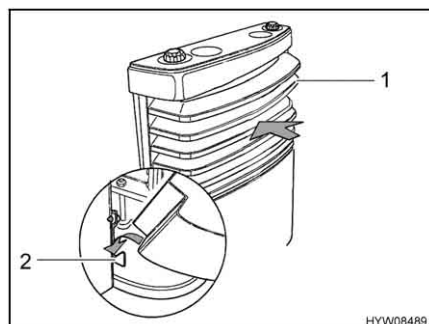

Fig. 148 Heater cover, lower brackets
- Mount the heater cover. To do this, place the heater cover (Fig. 148,1) on the lower brackets (Fig. 148,2).